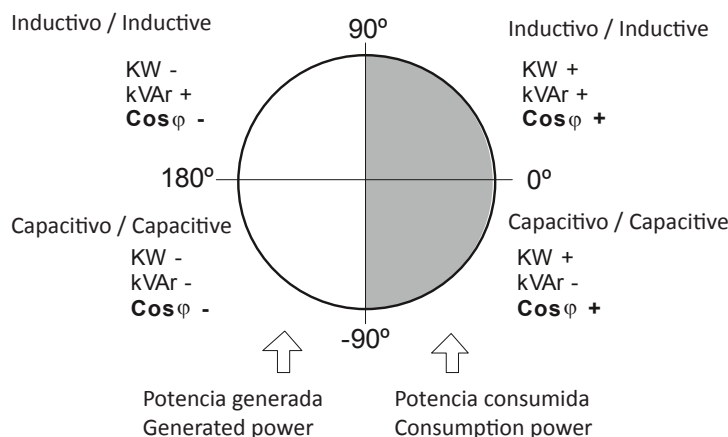

Figure 2:Power signs in four quadrants measurements
- **Four quadrants control** (see **Figure 2**), display of the connected stages, of $\cos \varphi$ and active and reactive power signs (inductive \sim or capacitive \cap).